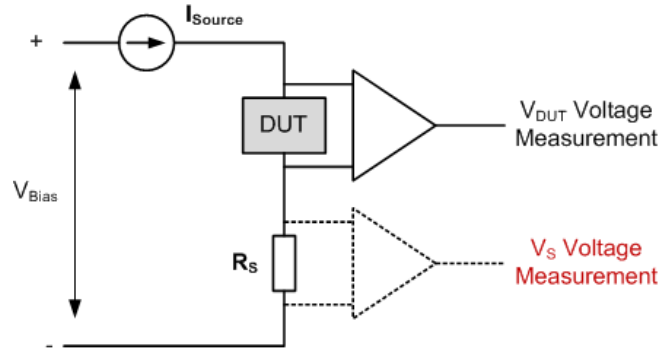

Figure 2.1 Conceptual Circuits for Resistance Measurement
Figure 2.1 below is the recommended conceptual circuits for resistance measurements.
As shown in the Figure 2.1,  $V_{Bias}$  is the total voltage applied to the DUT and sampling resistor  $R_s$ .  $I_{Source}$  is a configurable current source applied to the DUT and sampling resistor. The DUT resistance  $R_{DUT}$  can be calculated through the voltage measurement of  $V_{DUT}$ . The calculation is as below:
As shown in the Figure 2.1, a high precision sampling resistor  $R_S$  is in series with the DUT. This  $R_S$  has accuracy of 0.1% (Panasonic ERA3A or ERA6A series) with very low temperature coefficient (<25ppm). Since the same amount of current runs through both DUT and  $R_S$ , the resistance values of DUT can be calculated as:
4. High precision sampling resistors (0.1%) are required in series with DUT as shown in the Figure 2.1. Its value is recommended to be equivalent to the value of  $R_{DUT}$ .